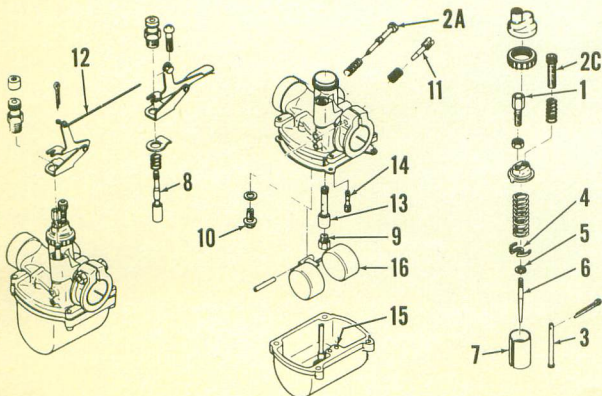
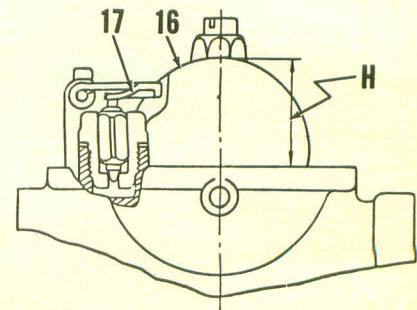

Fig. Y4-1—Exploded view of Mikuni VM carburetor used on early models. Starting valves for both carburetors are connected with rod (12).
Fig. Y4-3—Float level (H) is adjusted by bending tang (17).
**CARBURETOR.** Two Mikuni VM carburetors are used. Idle speed should be set to 1,100-1,300 rpm by turning screws (2A—Fig. Y4-1) or adjusters (2C). Make sure that both stop at exactly the same position and exhaust pressure is the same for both cylinders. Idle mixture is changed by turning needles (11). Initial setting is 1¼ turns open on model RD200A, 1¾ turns open on models AS2C, YAS1 and YAS1-C and 2 turns open on all other models. Turning the needle counter-clockwise leans the mixture. Carburetors must be synchronized to open exactly the same amount by turning cable guides (1) on top of each carburetor. To synchronize, begin by turning both idle
Float level (H—Fig. Y4-3) should be 22.5MM (¾ in.) for YAS1 and YAS1-C, 25.3MM (1 in.) for AS2C models, 30MM (1-3/16 in.) for RD200A models, and 21MM (13/16 in.) for all other models. Float height is adjusted by bending tang (17) on float. Refer to Fig. Y4-1 and the following standard specifications: